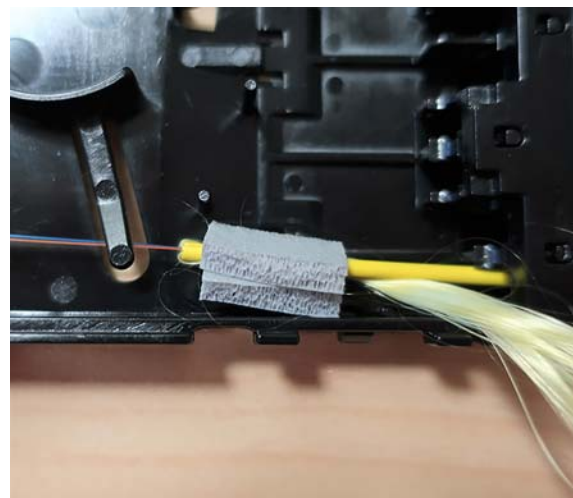

Figure 6. Folding foam
6. Fold the foam piece in half (Figure 6).